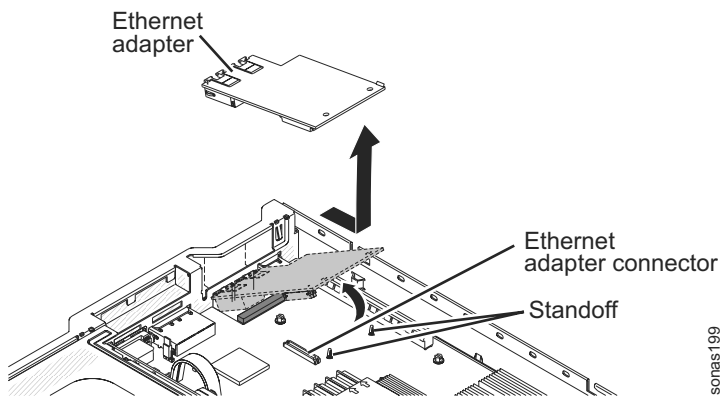

Figure 13. Removing the Ethernet adapter
6. Grasp the Ethernet adapter and disengage it from the standoffs and the connector on the system board; then, slide the Ethernet adapter out of the port openings on the rear of the chassis and remove it from the server. See Figure 13.